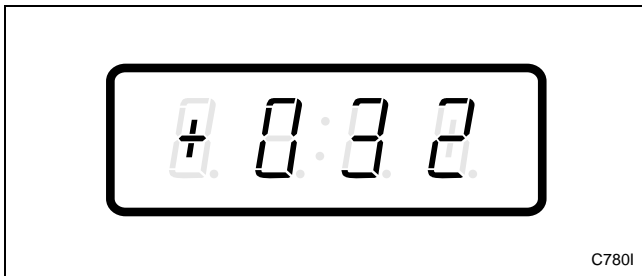

Figure 44
3. Press the DELICATES (+) or the COLD (-) keypad to scroll through the programmable options until “+032” appears in the VFD. Refer to *Figure 44*.